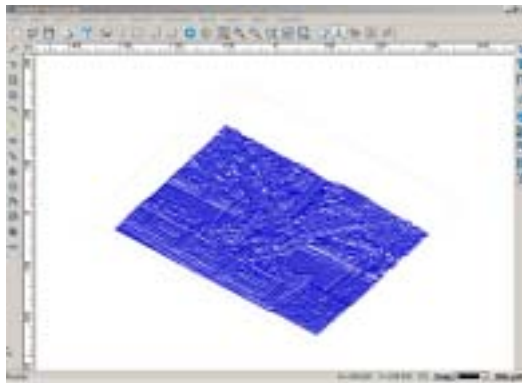

Fig. 12-69
4. Click View->3D View in the menu bar, and then click on the right mouse button and select ISO View from the menu. The result is shown in Fig. 12-69.